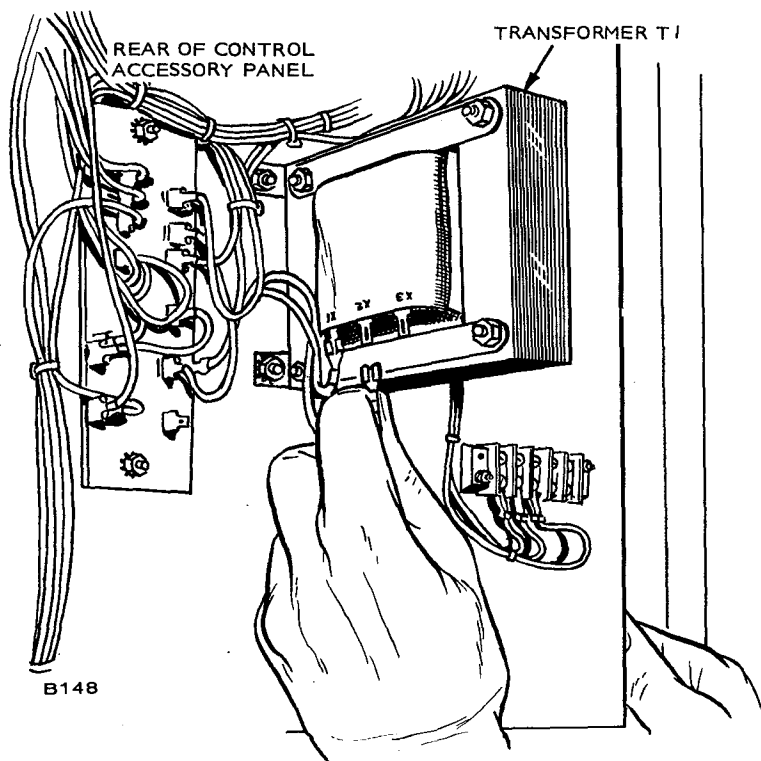

FIGURE 7. BATTERY CHARGER TRANSFORMER DC CONNECTIONS
5. Remove the wire lead from transformer T1 terminal T1-X3 and connect to terminal T1-X2 (Figure 7).
5. Remove the wire lead from transformer T1 terminal T1-X2 and connect to terminal T1-X3 (Figure 7).